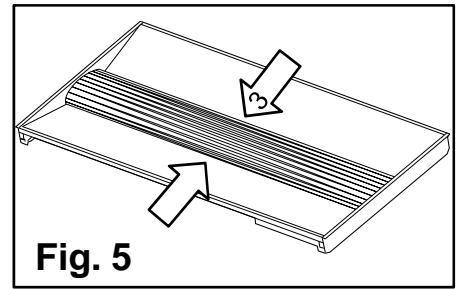

Fig. 5
1. Squeeze along the **lens** (#3) to remove it (**Fig. 5**).
5. Squeeze the **lens** (#3) back into place (**Fig. 5**).